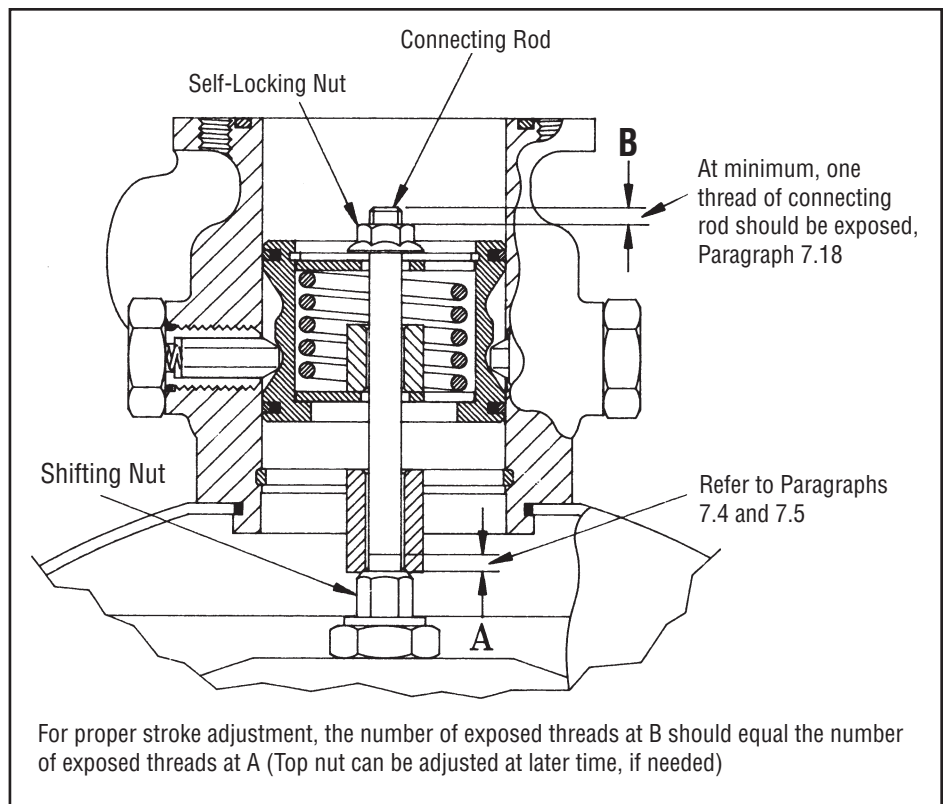

Figure 7-13 J air valve stroke adjustment.
- 7.18 Install self-locking nut (44) on upper threaded end of connecting rod (37). See Figure 7-12. Referring to Figure 7-13 and paragraph 7.5, if no lower threads of connecting rod show above shifting nut (40), then install self-locking nut (44) with at least one upper thread of connecting rod exposed beyond the self-locking nut. Correspondingly, if one or two lower threads of connecting rod are exposed beyond the shifting nut, then install self-locking nut with a like number of connecting rod upper threads exposed beyond the lock nut.